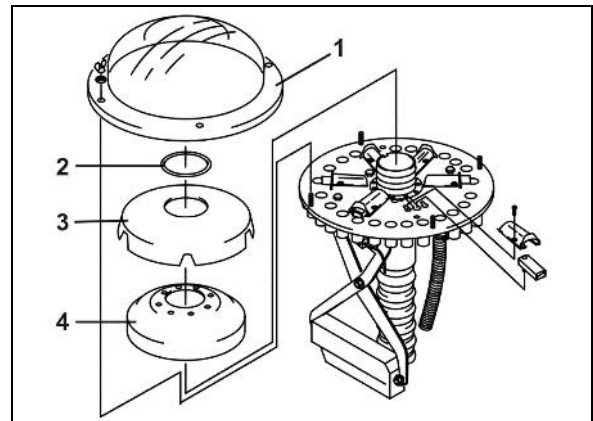

Fig. 143
3. Remove the distributor outer hood (Fig. 143/1) d.
4. Remove the ring (Fig. 143/2).
5. Remove the distributor inner hood (Fig. 143/3).
6. Remove the foam rubber insert (Fig. 143/4).